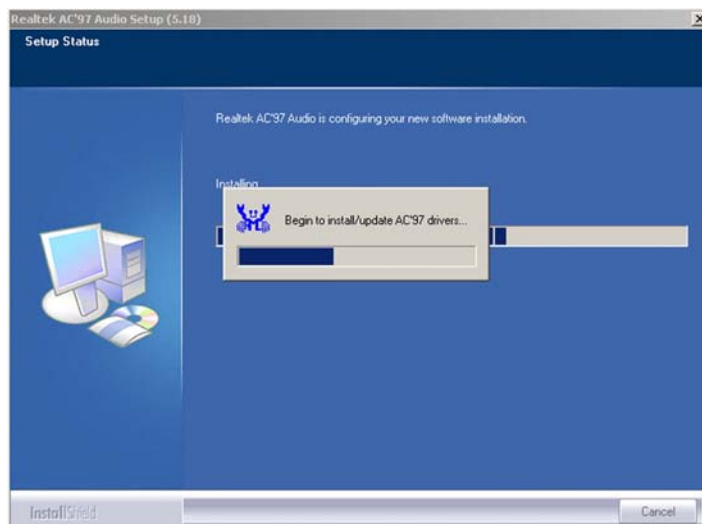

Figure 6-26: AC`97 Audio Driver Installation Begins
Step 8: After clicking the “YES” button in **Figure 6-25**, the installation of the driver begins (**Figure 6-26**).